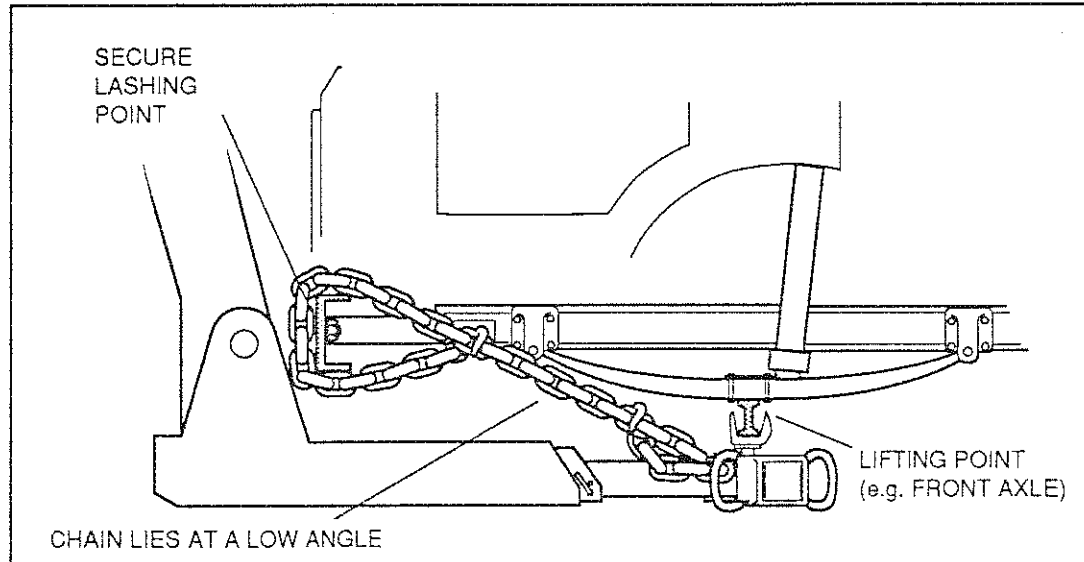

Figure 11 - Restraint against overrun
- 3.3.3 When braking occurs, there is a tendency for the casualty to ride forward. Chains to restrain this potential movement should be laid between the crosshead and some strong point on the vehicle. See Figure 11. The tension in the chains should be firm, not bar-tight. This can be achieved by slight adjustment of the boom extension facility. If the